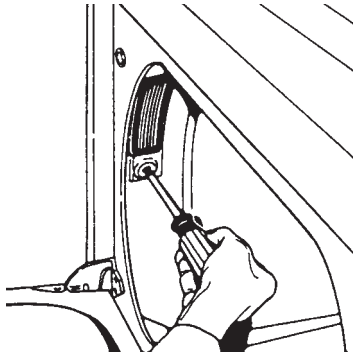

Fig. 4-13
1. Open dryer door. Remove the drum lamp cover screws. (Fig. 4-13)